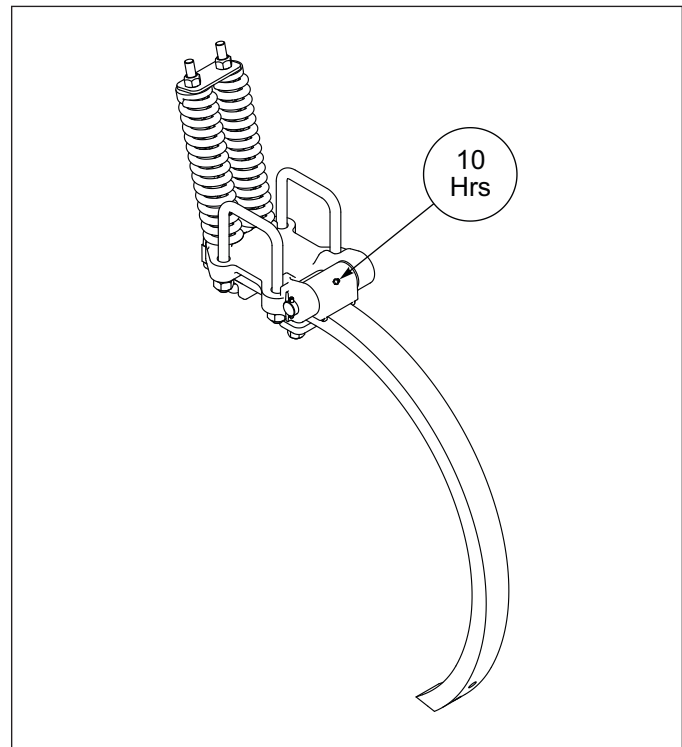

Figure 4-3: Spring Shank Lubrication
- Grease Spring Shank Clamp every 10 Hours to prevent seizure. **See Figure 4-3.**